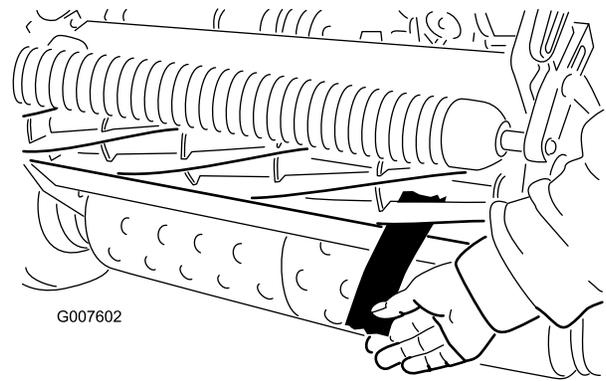

Figure 46
4. On one end of the front side of the reel, insert a long strip of newspaper between the reel and bedknife (Figure 46). While slowly rotating the reel forward, turn the bedbar adjusting screw clockwise (on the same end of the reel, one click at a time, until the paper is pinched lightly, when inserted from the front, parallel
6. After the adjustment is accomplished, check to see if the reel can pinch paper when inserted from the front and cut paper when inserted at a right angle to the bedknife (Figure 46). It should be possible to cut paper with minimum contact between the bedknife and the reel blades. Should excessive reel drag be evident (more than 7 inch-lb (0.79 N-m)), either backlap or grind the cutting unit to achieve the sharp edges needed for precision cutting; refer to the *Toro Reel Sharpening Manual*.